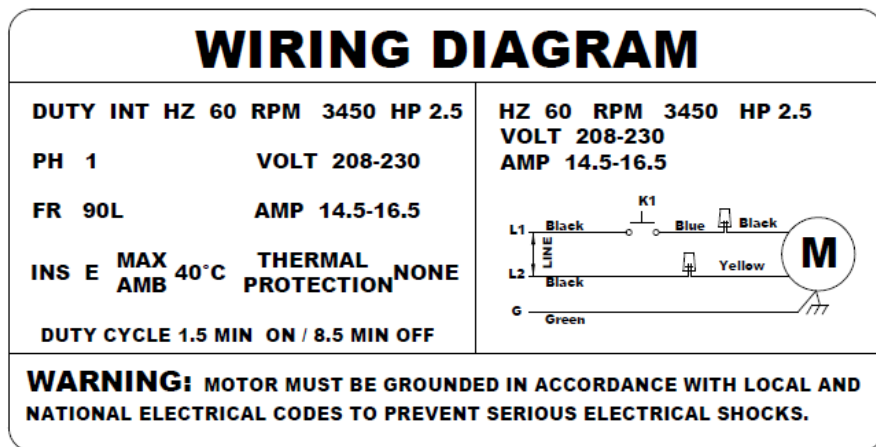

Fig. 18
1. Have a certified electrician make the electrical connection to the power unit. Use a separate circuit for each power unit, as shown below in (Figs. 18 & 19).